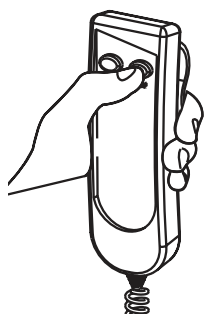

Figure 17-3
9. Press the DOWN button until the lift's tower has moved out of the vehicle. [Figure 17-3]